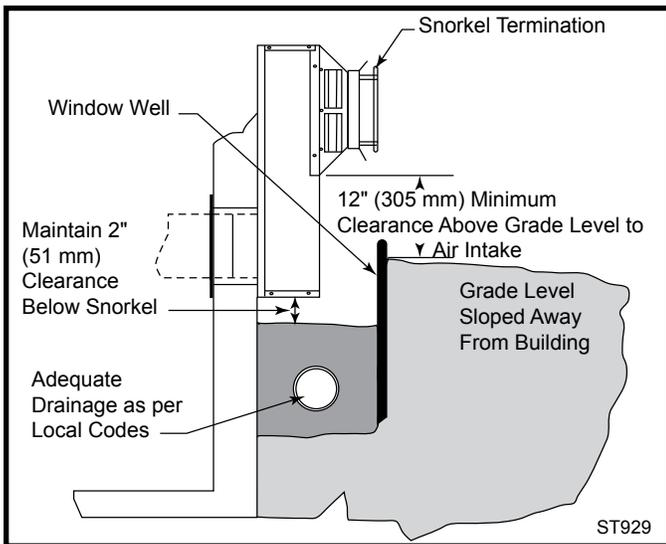

Fig. 40 Below grade installation.
1. Determine the appliance location. Refer to the appliance manufacturer's installation instructions for clearance to combustible requirements, termination options, number of elbows, maximum length, etc. Then position the appliance and plan vent routing accordingly. Consider locating the appliance in a place where there will be no interference with wall studs, electrical wiring, conduit, plumbing pipe or other obstructions. The termination should be located at least 12" (305 mm) (Fig. 40) above grade, remain above the snow line in geographical areas that accumulate snow and be away from traffic areas such as walkways if it is
**NOTE:** If a vertical rise is necessary on the exterior side of the building, a 14" (356 mm) and 36" (914 mm) Snorkel Termination (ST) is available. Follow the installation procedures for horizontal terminations. If the snorkel termination is to be located below grade, a window well is recommended with adequate and proper drainage as per local codes. Leave 2" (51 mm) clearance below snorkel to prevent water from entering the snorkel termination. Do not enclose the snorkel within a wall or other type of enclosure and **do not back fill**. Ensure that grade level slopes away from the building. (Fig. 40)